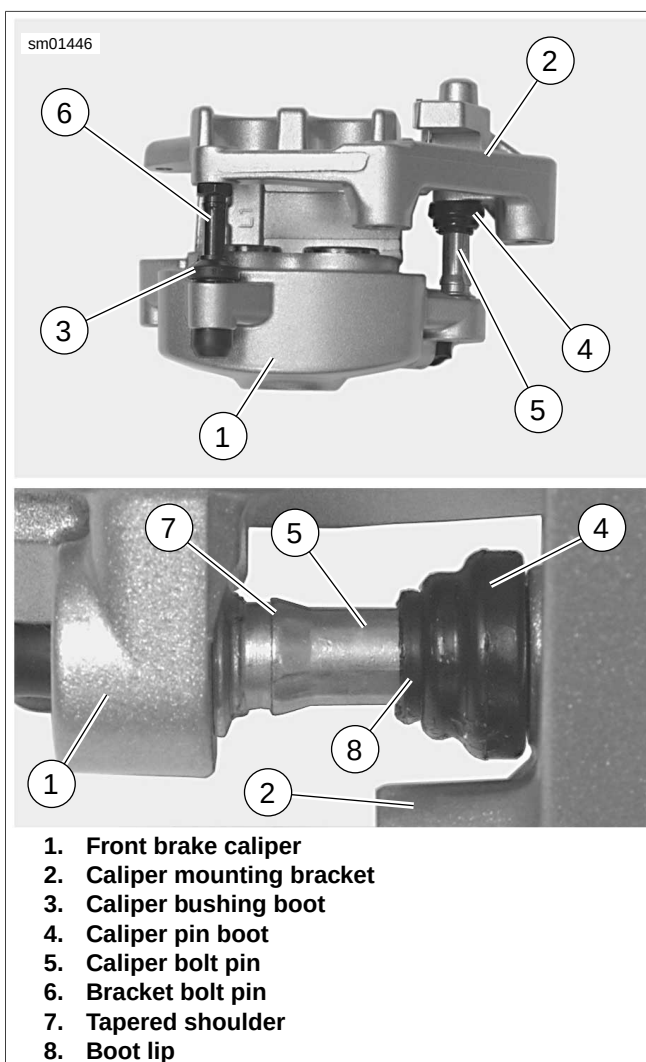

Figure 2-90. Assembling Front Brake Caliper and Mounting Bracket
2. See Figure 2-90. Apply G40M BRAKE GREASE inside boot lip (8) to prevent sticking between boots (3, 4) and bolt pins (5, 6).
3. Assemble brake caliper and mounting bracket, carefully sliding bolt pins into boots. Slide brake caliper all the way onto mounting bracket until boot lips fit over tapered shoulders (7) of bolt pins.